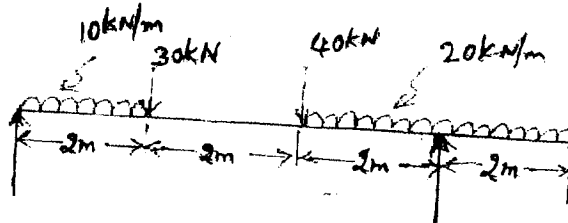

Fig.5(b)
b. For the beam shown in fig.5(b), draw shear force and Bending moment diagram. Locate the point of contra flexure if any. (15 Marks)